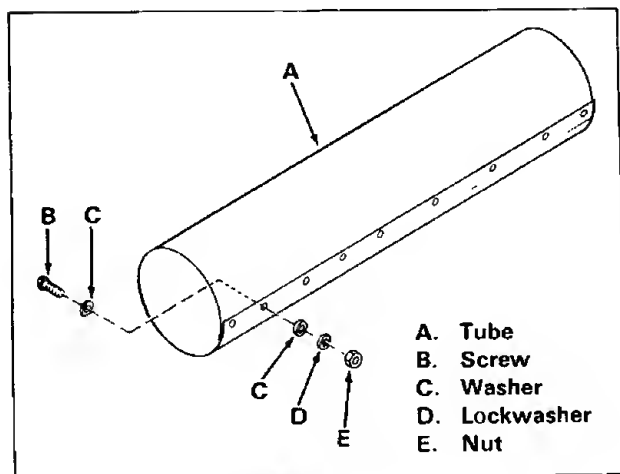

Figure 12
1. Roll the polyethylene material into a tube (item A, figure 12), aligning the holes as shown.